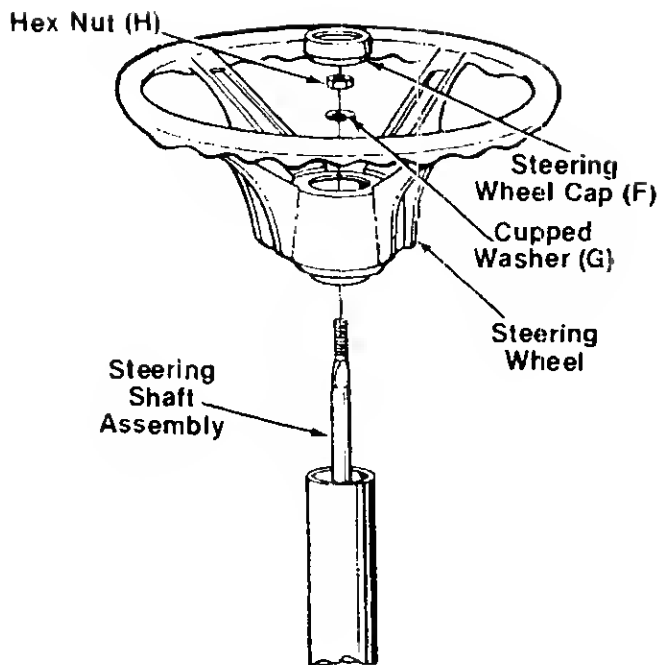

FIGURE 2.
2. Place **cupped washer (G)** over the **steering shaft**, with the cupped side of the washer against the steering wheel. Secure with **hex nut (H)** (5/16" I.D.). See figure 2. Tighten securely.
11. Press **steering wheel cap (F)** in place in the center of the steering wheel. See figure 2.